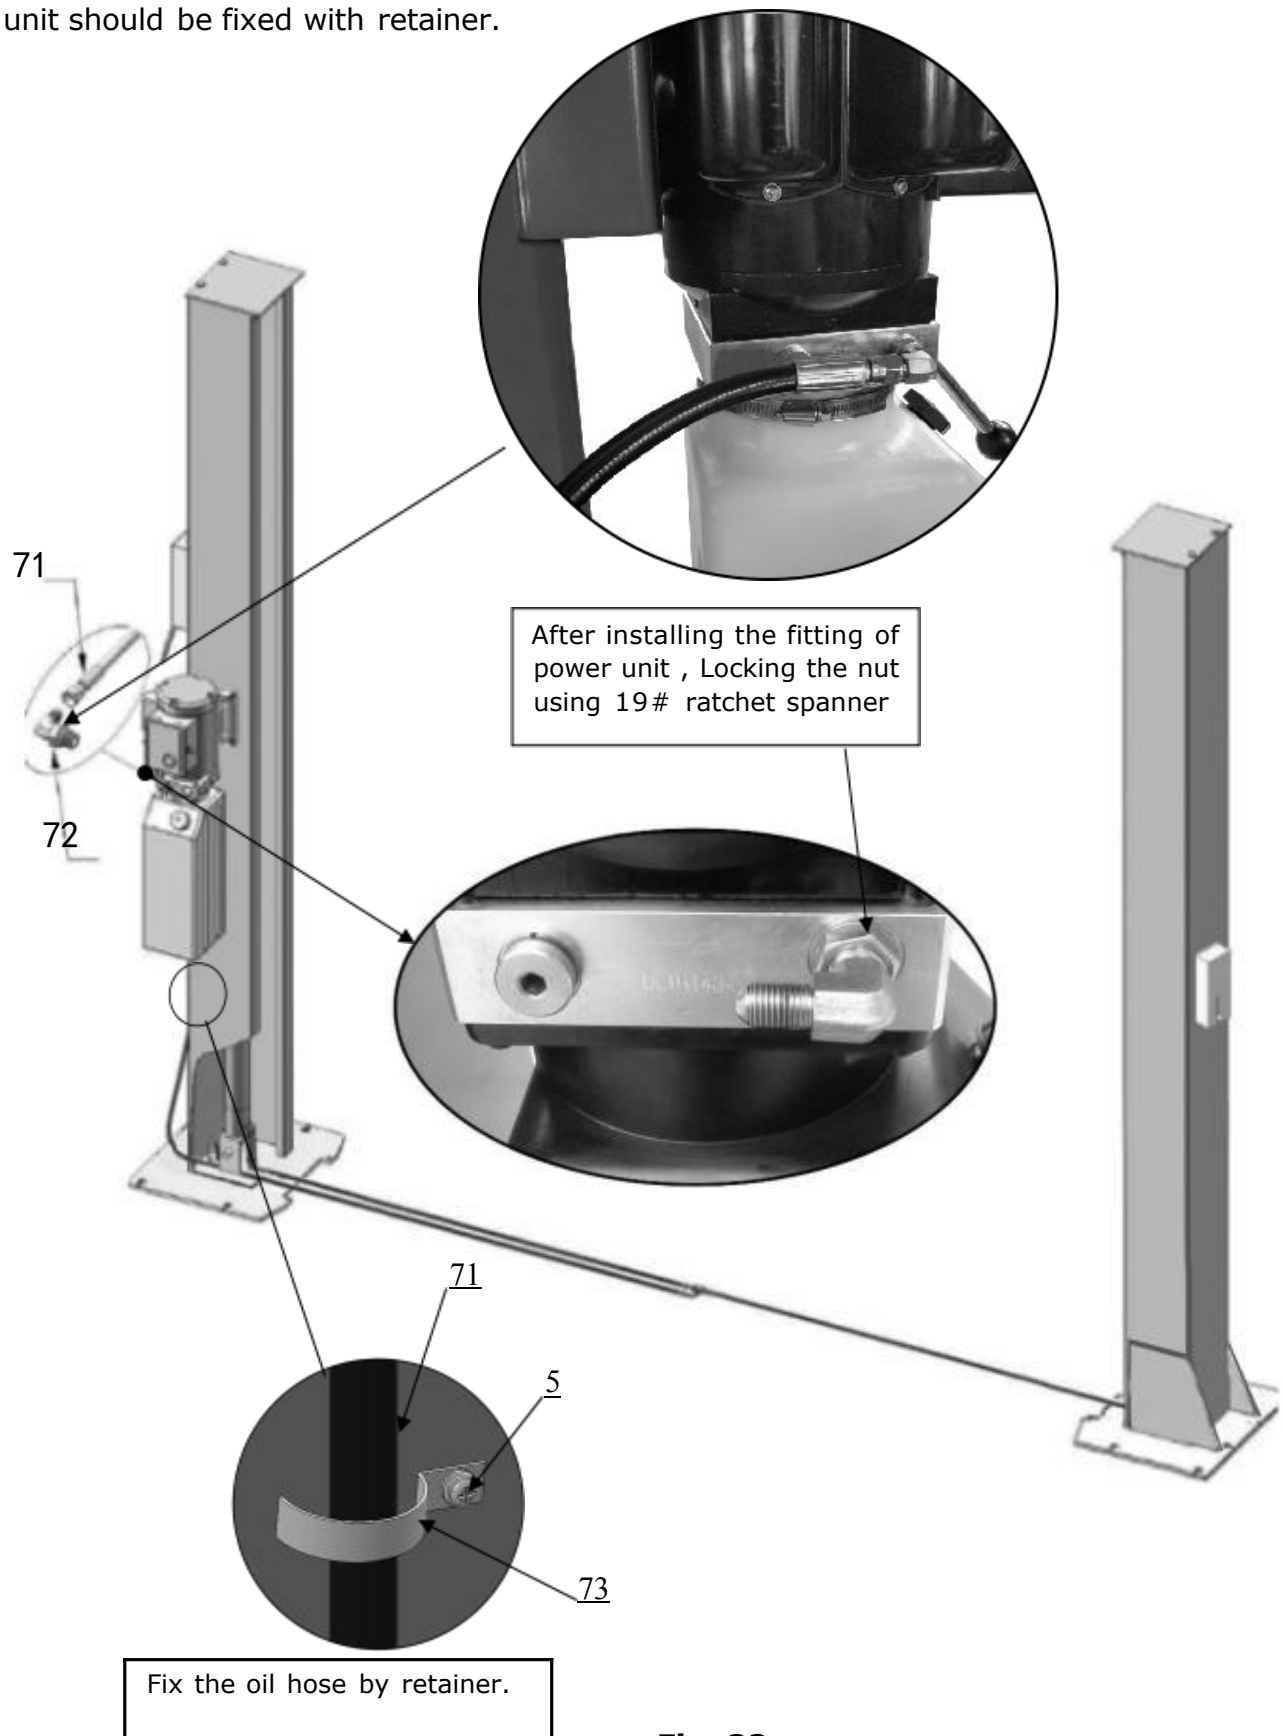

Fig. 22
K. Install hydraulic power unit and oil hose assy. (See Fig. 22).